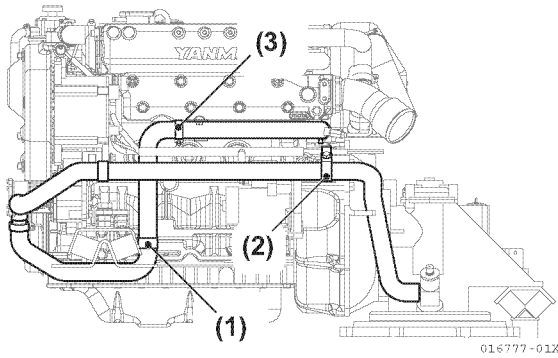

Figure 5-181
- In case of the SD50, the method is the same (Figure 5-181).